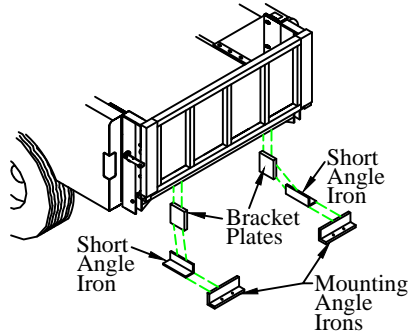

Figure 20: Lower bracket support.
- 2. Bolt** the bracket plates to the truck frame (Figure 20). If possible, these may extend out to the mounting angle irons on the liftgate. Modification to the bracket plates may be required.